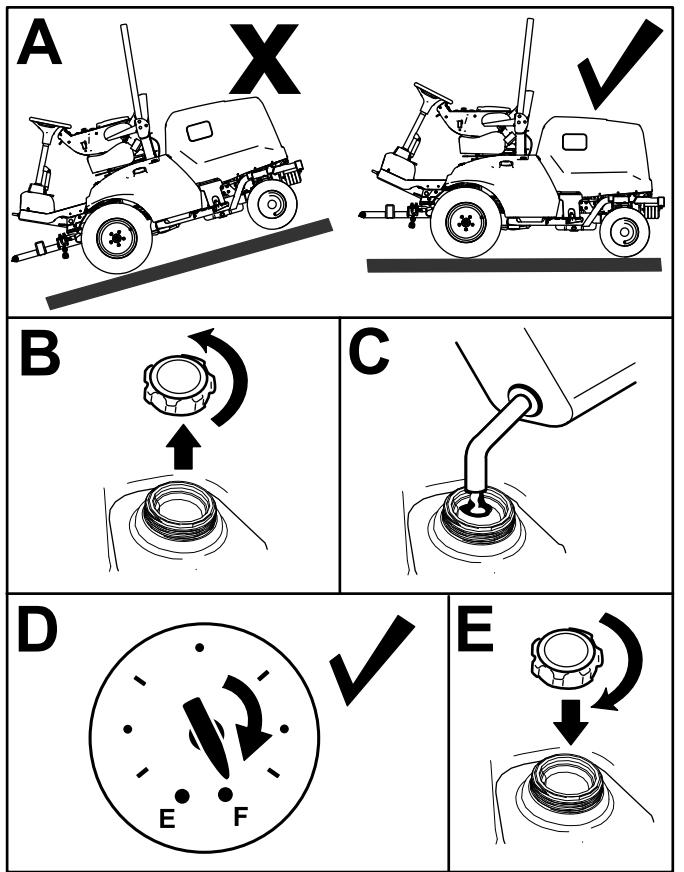

Figure 28
1. Park the machine on a level surface (Figure 28), engage the parking brake, shut off the engine, and remove the key.